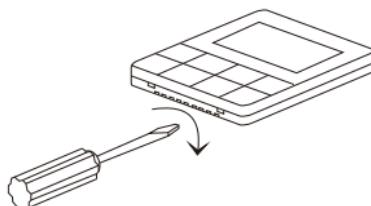

Fig.1
- 2.As shown in Fig. 1, use a flathead screw driver to pry the bottom groove of the wire controller lightly (too much force would damage circuit board), pry rotationally to open the back cover.